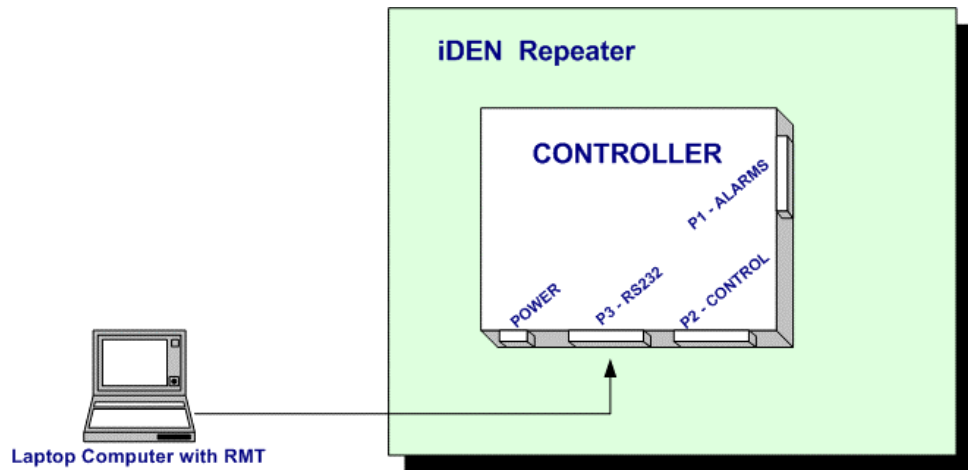

Figure 6: iDEN Repeater - Local Monitoring with Laptop
- Connect an external serial cable (RS232) from the Laptop to the Controller P3 (RS232) connector (see Figure 6). Make sure that the status led on the Controller is blinking before you connect the cable.